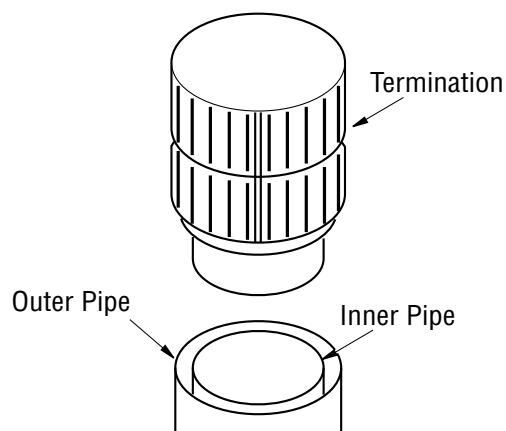
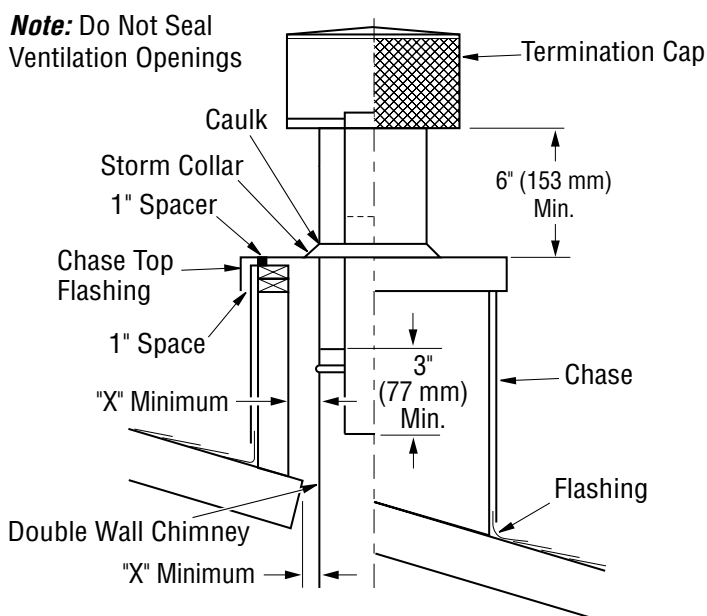

Figure 28- Installing Termination Cap
Figure 29 - Chase Installation
5. Place termination cap over opening. Slip stainless steel inner pipe of termination into inner stainless steel chimney section (see Figure 28). Place galvanized steel over chimney outlet (see Figure 29).
6. Attach storm collar where chimney pierces opening in flashing. Caulk where storm collar touches outer chimney pipe (see Figure 29).